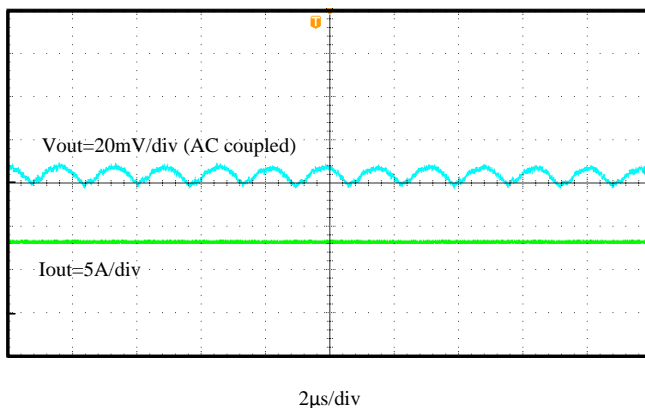

Figure 6. Output Voltage Ripple, $F_{sw} = 600$ kHz
Equation 6 and Equation 7 reveal that the total output ripple is mainly affected by duty cycle, output capacitor, and inductor. Another important factor is switching frequency. Higher frequency is of great benefit for reducing output voltage ripple. Based on the parameters in Table 1, Figure 6, and Figure 7 show the ripple test results with 8 A loading. The ripple is 11 mV under 600 kHz and 10 mV under 1000 kHz. The ripple becomes smaller even though using the output power stage (LC) with smaller inductance and capacitance increases the switching frequency.